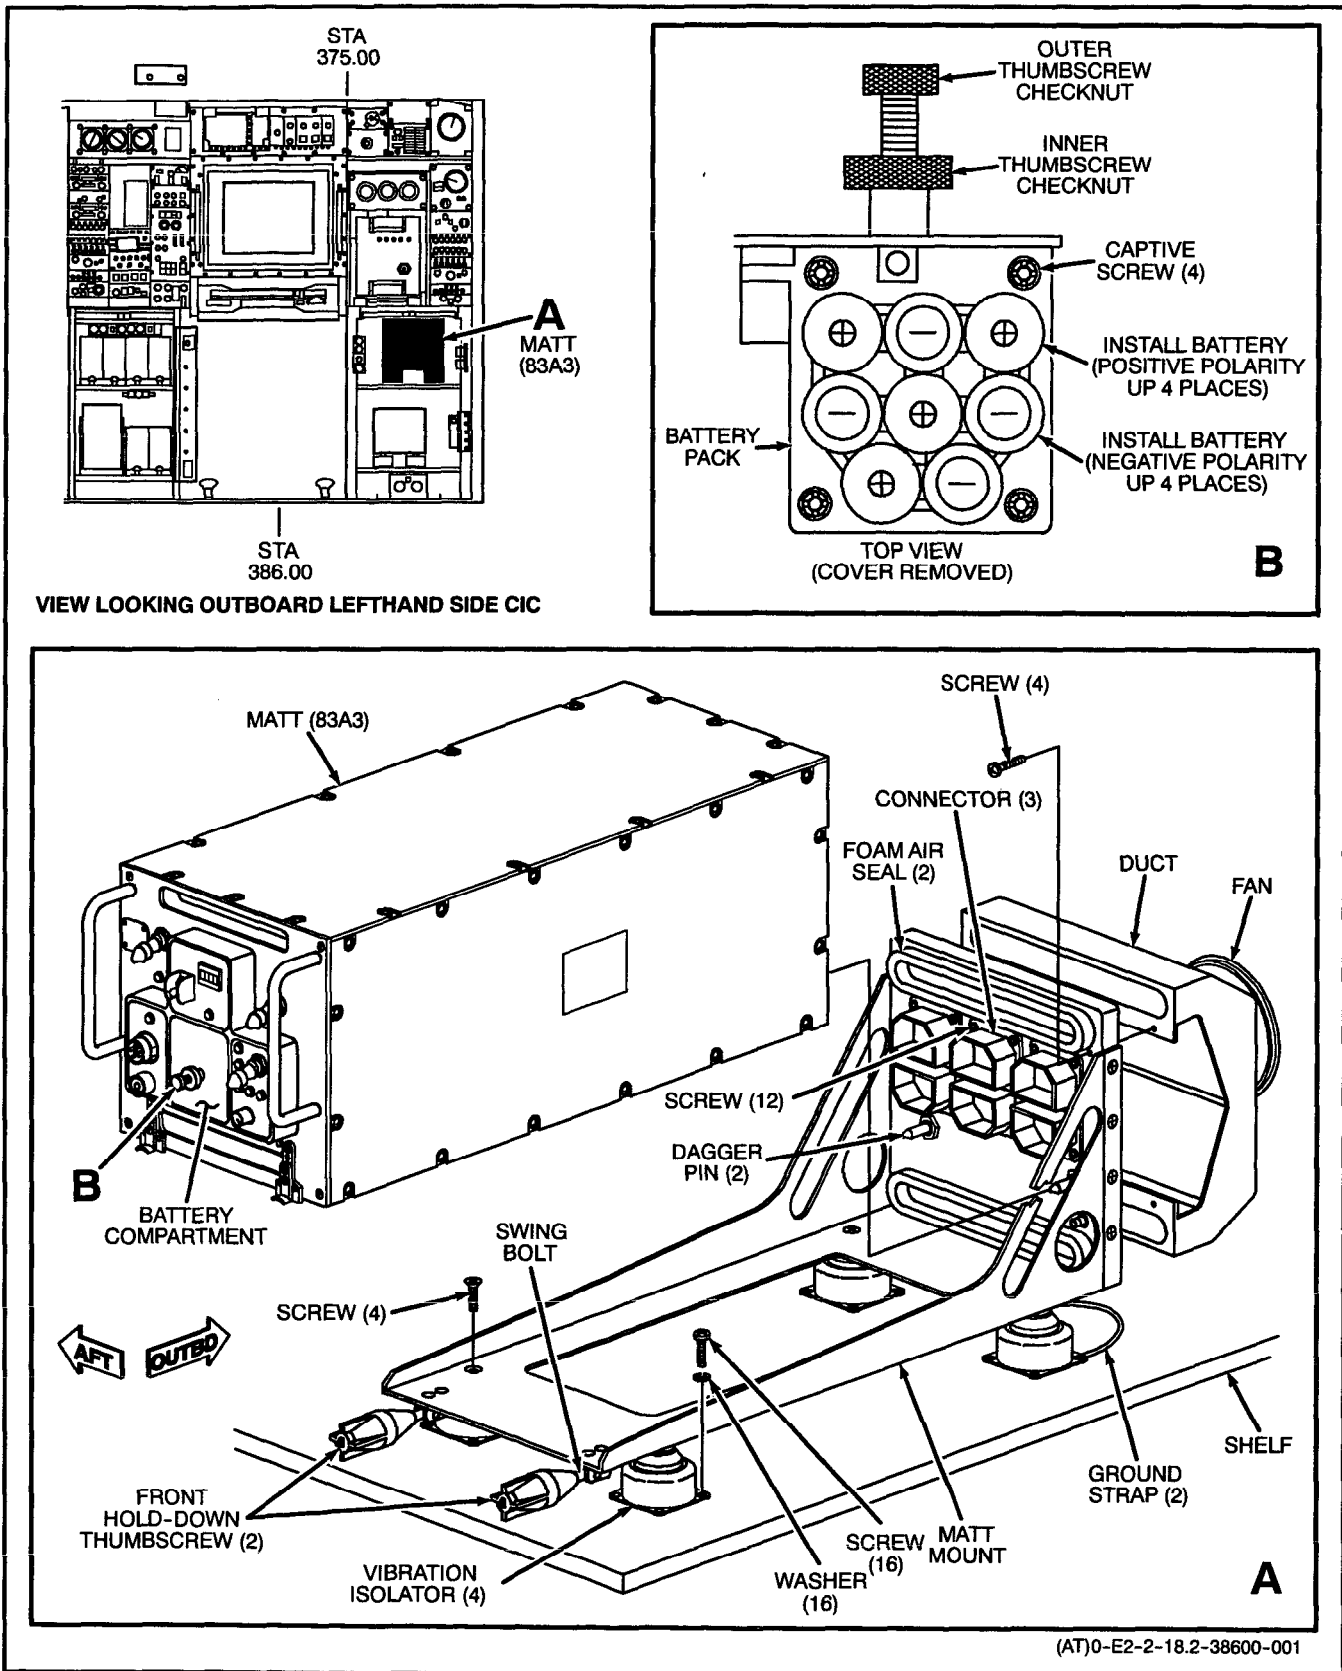

Figure 1. Removal and Installation of SATCOM Multi-Mission Advanced Tactical Terminal OZ-72(V)2(C)A (83A3) and Mount
**2. REMOVAL.** (Figure 1.)
### 3. INSTALLATION. (Figure 1.)